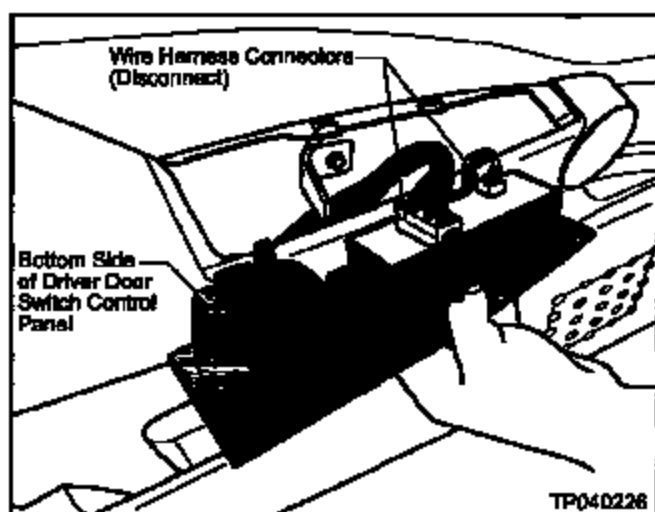

Figure D2
- b. Lift the rear of the Driver Door Switch Control Panel **UP** first. Then pull **REARWARD** to release the securing clip at the front of the panel. Turn the panel over and disconnect the Wire Harness Connectors (see Figure D2).